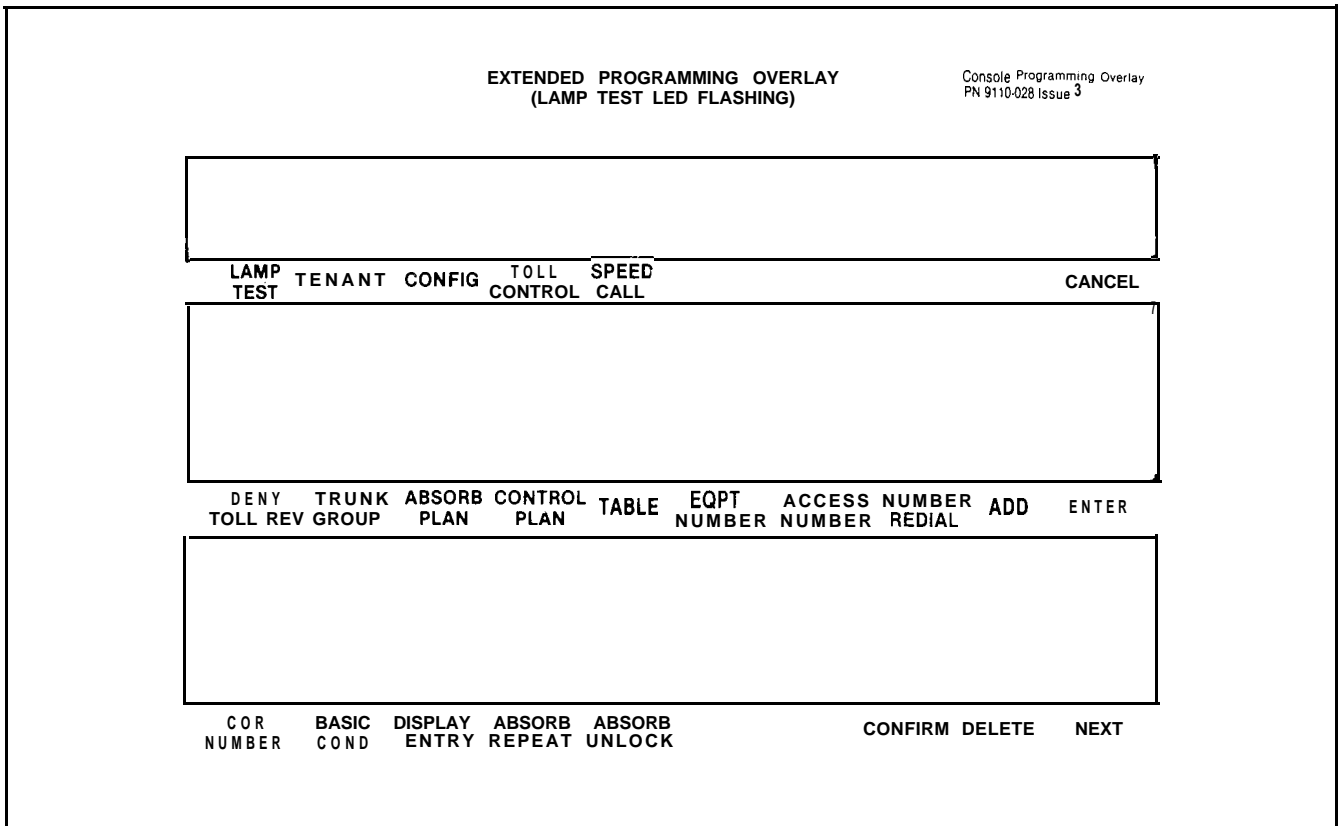

Fig. 7-1 Extended Programming Console Overlay
7.01 The Extended Programming console faceplate layout is shown in Fig. 7-1. The faceplate differs from other programming faceplates, in that certain keys bear different designations required for Multi Digit Toll Control. For a brief description of each key and its function see the appropriate following description.